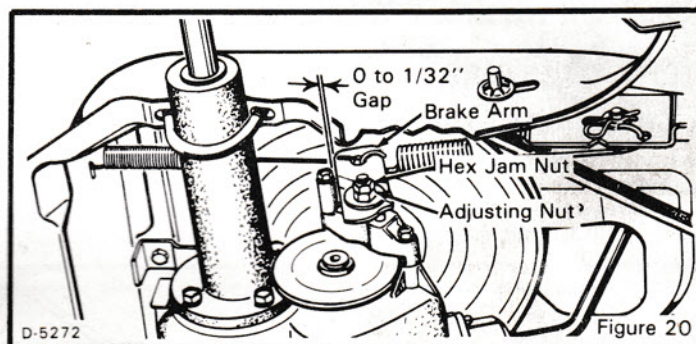

Figure 20
- Loosen the hex jam nut (see figure 20).
- Push forward on the brake arm and turn the adjusting nut clockwise until there is a gap of 0 to 1/32 inch between the stop bolt and the brake arm (see figure 20).